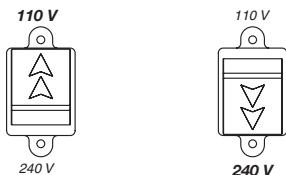

Fig. 1
**For models "M DV," check that the arrows on the voltage supply selector key cover (Fig. 1) are pointing to the voltage value required.**